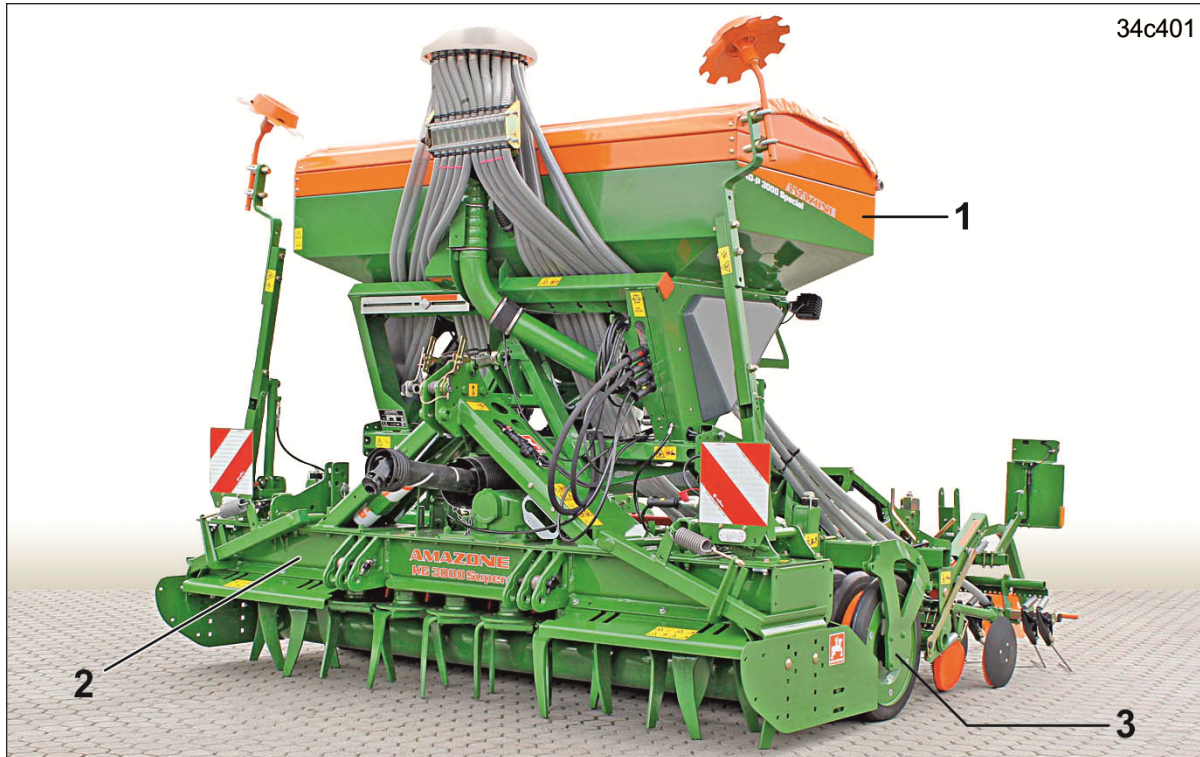

Fig. 24
The AD-P 30/35/4000 SPECIAL pneumatic pack top seed drill (Fig. 24/1) is used as part of a seeding combination with soil tillage implement
- AMAZONE rotary cultivator (Fig. 24/2)
- AMAZONE wedge ring roller (Fig. 24/3) KW